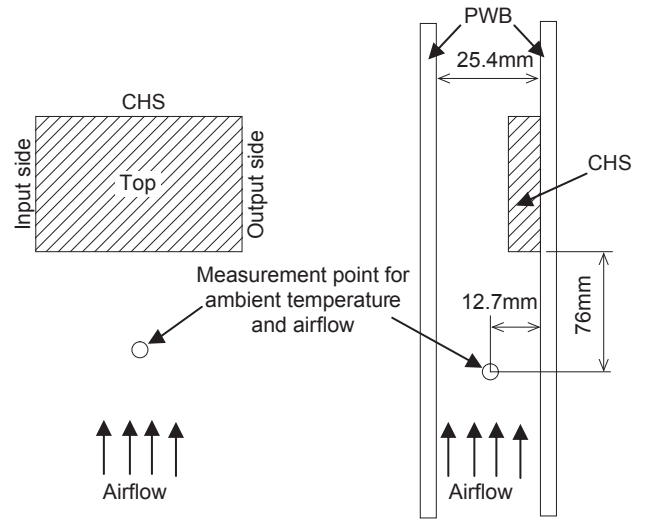

Fig.8.3 Measuring method
■ Shown the thermal curve with measuring as shown in Fig.8.3. Verify final design by actual temperature measurement. Use the temperature measurement location as shown in Fig.8.2.1 to Fig.8.2.10 at 120°C or less.